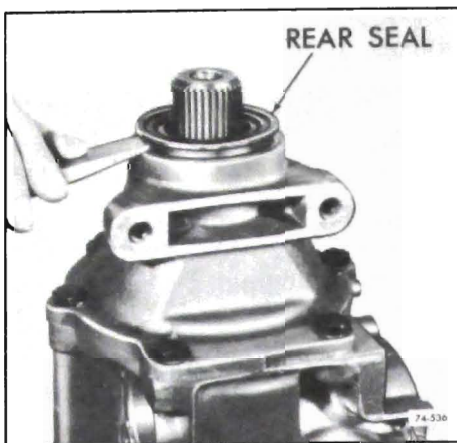

Figure 76-536
1. If necessary to replace, pry the rear oil seal from the extension housing. See Figure 76-536.